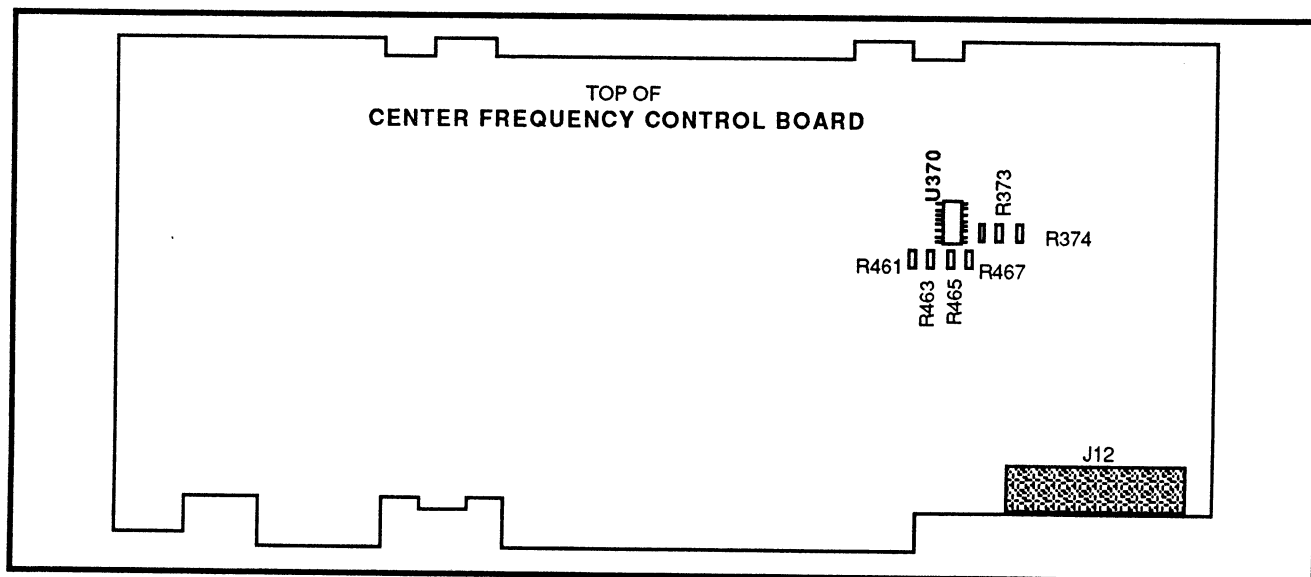

Figure 4-11. Reference frequency adjusting resistors.
(1) Test Oscilloscope
- c. Monitor the positive plate of C325 (Figure 4-11) with the test oscilloscope.